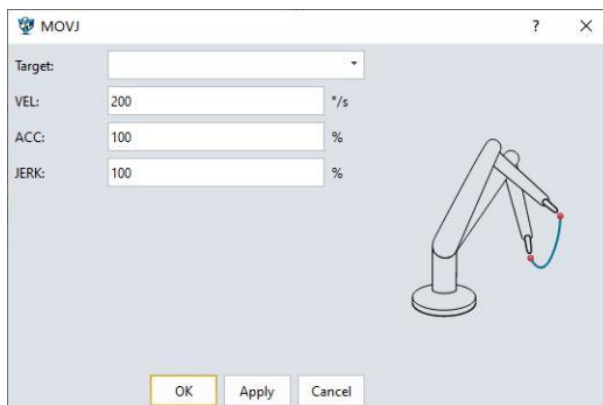

Figure 3-34: MOVJ
(1) HOME:
(2) MOVJ:
- **Explanation:** The unit of VEL is $^{\circ}/s$; ACC and JERK both use percentage form, and the input range is a positive number. If it is less than or equal to 0, an error will be reported; (Figure 3-34)